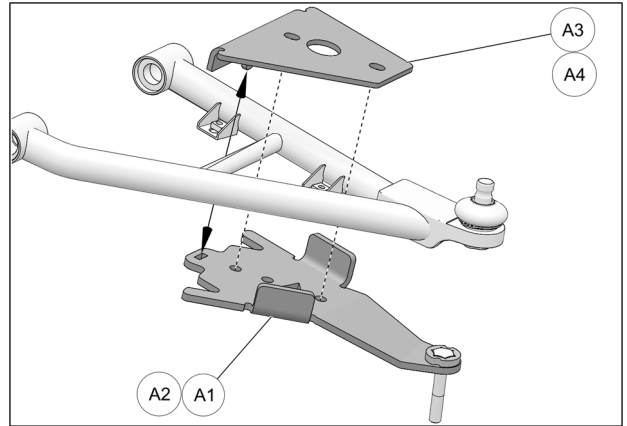

Fig. 16
5. Position bottom part of anchor bracket assembly (A1-A2) under lower suspension arm. Position bracket cover (A3-A4) over suspension arm. Align holes and insert the cover's tenon in the mortise cut in the bottom part. Refer to Fig. 16